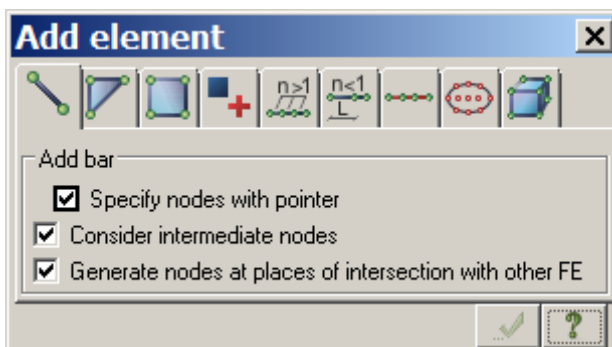

Figure 9.7 Add element dialog box
- ⇒ On the **Create and edit** ribbon tab, on the **Create** panel, point to **Add element** drop-down list and click **Add bar** . The **Add element** dialog box is displayed with the **Add bar** tab open (see Fig.9.7).